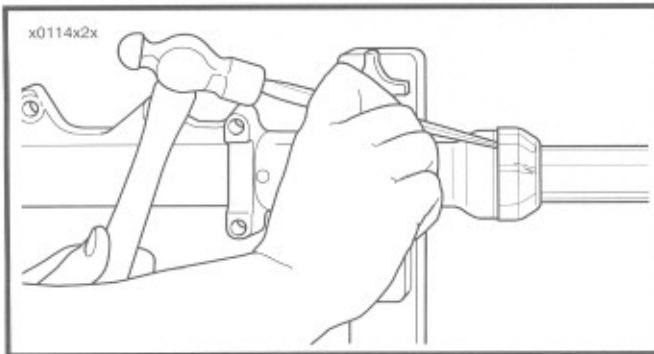

Figure 2-67.
- See Figure 2-67 and 2-68. Remove the cover from the slider. Remove seal and stopper ring.